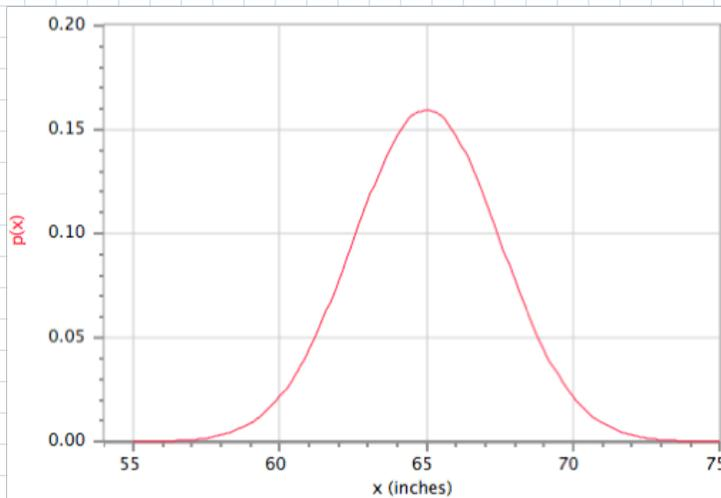
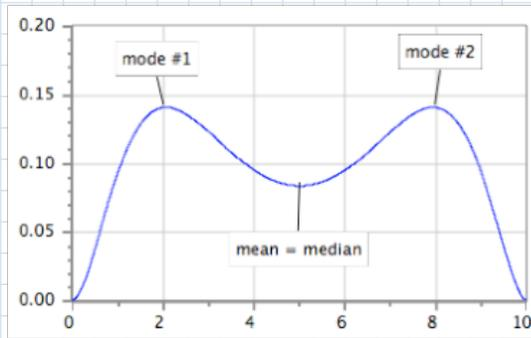

Figure 2: $p(x)$, the hypothetical distribution of heights of adult women in the US.
Figure 4: A distribution with mean = median, but not mode.
- a. For a symmetric function like the one graphed above in Figure 2, the mean and median are equal to each other (in this case, both are 65 inches). And because the distribution is peaked in the middle, the mode is also 65 inches. However, Figure 4 shows an example of a symmetric distribution where the mode (actually two modes) is not equal to the median and mean: